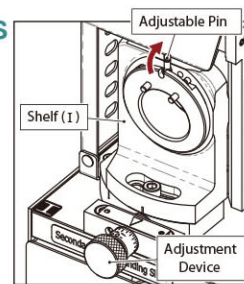

Fig. 5-1
1. Secondary Relief Grinding Shelf (I) (Fig. 5-1)
- ① Move the adjustable pin on the Shelf (I) from the bottom to top.
- ② Adjust the cutting face adjustment device to “0”, after finishing the whole sharpening procedure, then adjust this device according to your needs.